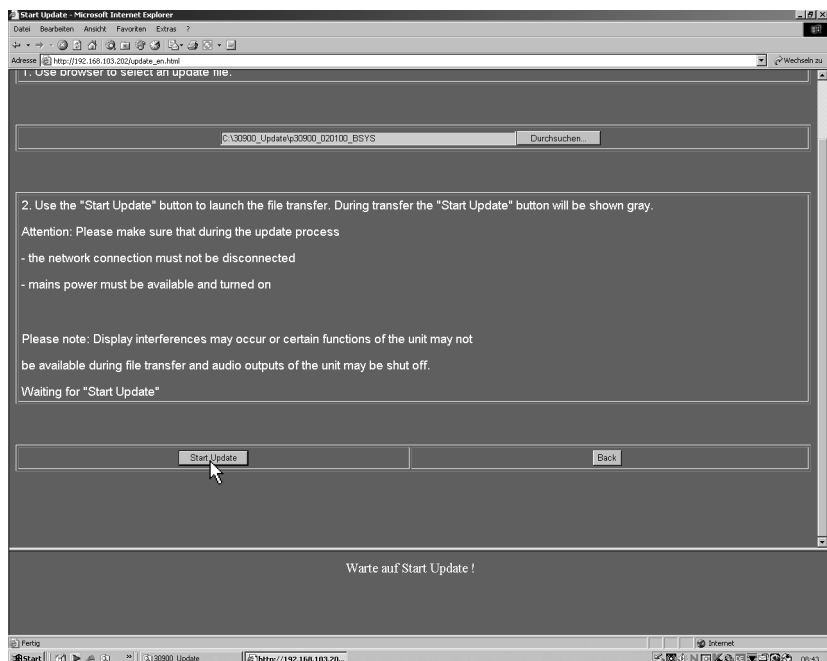

Fig. 5-14: Starting the update process with the selected update file
- Press Start update to start the update process (see Fig. 5-14). **Please make sure that no interruption of the network access or supply power occurs during the download sequence.**